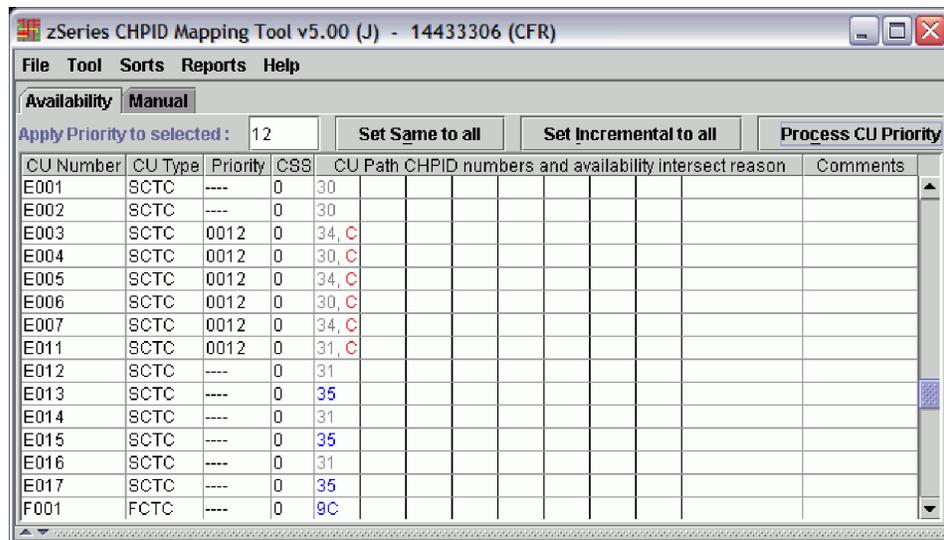

Figure 45. Example of Panel Showing Intersects Detected
- a. Scroll down the list, to see where there are potential problems. (Alternately, you can display all the intersects to the top of the panel by clicking **Sorts** and then **By Intersect**.) Figure 45 on page 41 is an example showing intersects detected.